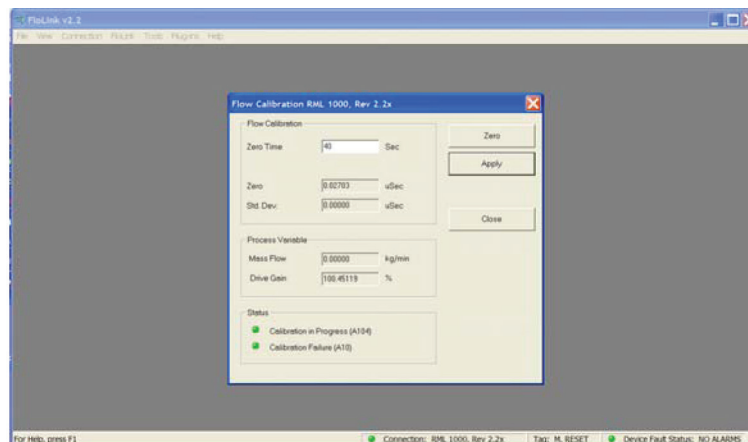

FIGURE 5.11
11. In the *Flow Calibration* screen, set the Zero Time for 40 seconds, and click *Apply*. With truck engine still running and the truck PTO disengaged, click *Zero* and *OK* at the "... Proceed?" message. After 40 seconds, if the zeroing procedure is successful, the status box will indicate all green lights. If there are any red lights, the procedure was not successful, and must be repeated. When successful, click *Done* (see Figure 5.11).